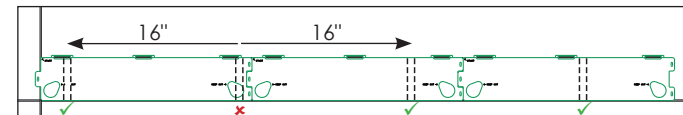

Figure 5: Move Studs at Interference Locations
- Mark new tube mounting locations at 16" increments on both sides of the stud if a stud location directly overlaps with a KEEP OUT slot. Refer to **Figure 5**.